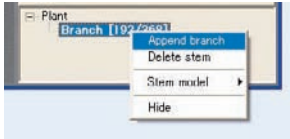
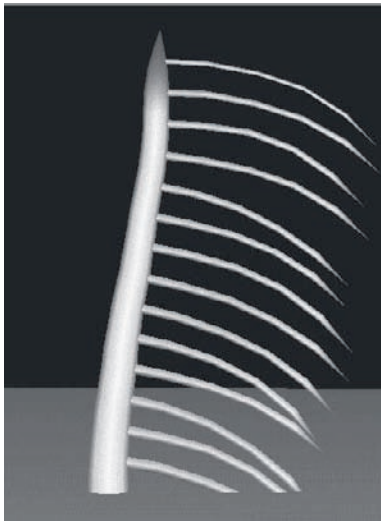

Figure 7.27 Adding another level of branches
Figure 7.28 Stem parameters for branches
2. Add sub-branches by right-clicking the Branch entry in the tree structure window and selecting Append Branch, as shown in Figure 7.27. Set the Stem parameters as shown in Figure 7.28. Because these branches are smaller than the trunk (and they will also be a bit more concealed), it is not necessary for them to have the resolution set as high. Also, the ends of the branches will hang down slightly, which is accomplished by moving the right endpoint of the Phototropism curve downward very slightly.